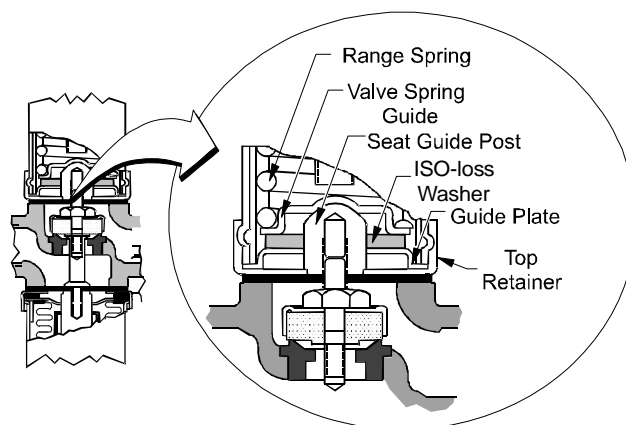

Figure 6: ISO-loss Washer
- b. Remove the range adjusting screw, spring, and valve spring guide (Figure 6).